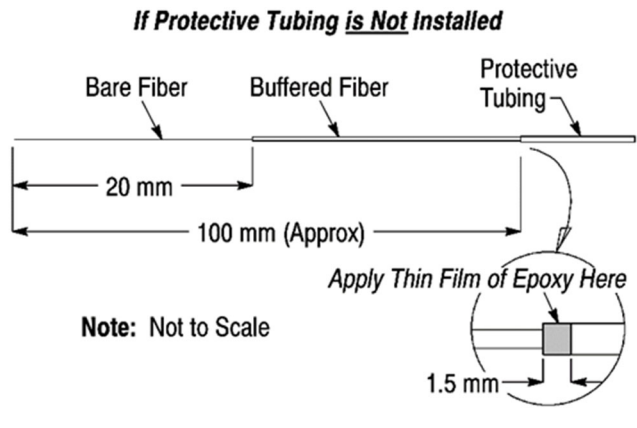

Figure 3
- g. Using the fiber stripping tool, strip the buffered fiber to the dimension shown in Figure 3, exposing the bare fiber. Using a lint-free tissue or cloth dampened with isopropyl alcohol or acetone, clean the bare fiber.
- j. Apply a *thin film* of epoxy around the outside edge of the protective tubing to the width given in Figure 3.